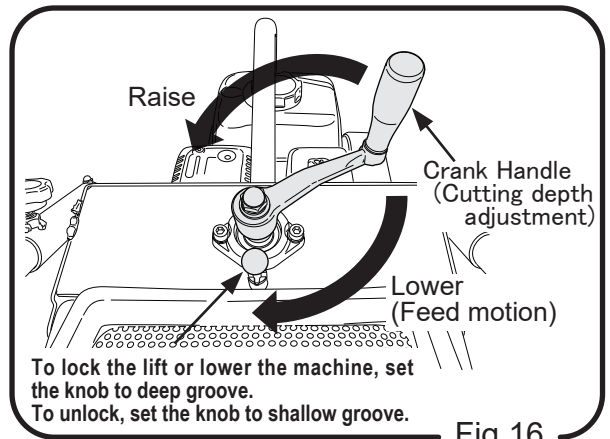

Fig.16
4. To cut - in with the blade at the bottom, turn the Crank handle to clockwise, and cut down while adjustment the lowering speed so that engine speed is not reduced excessively. After cutting down, set the knob to the lock position which located beside of Crank handle to lock the machine. (Fig.16)